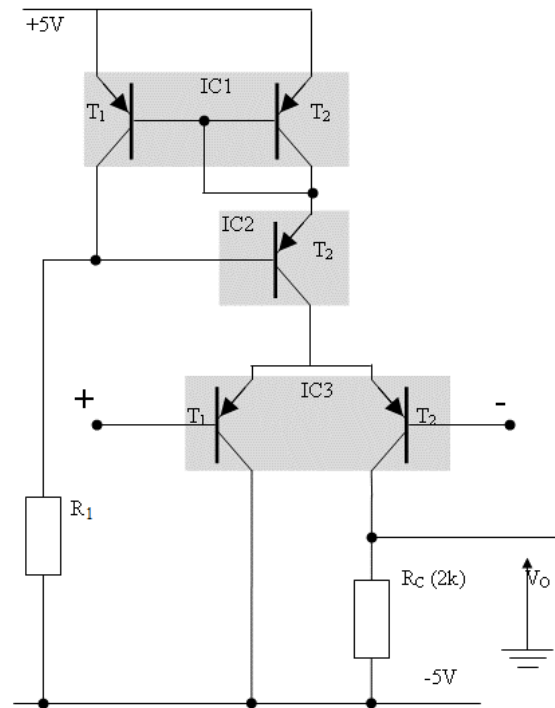

Figure 12 LTP with active load
- Connect the collector output of the Wilson current-mirror you constructed in section 5 in place of resistor R_E (Figure 12).